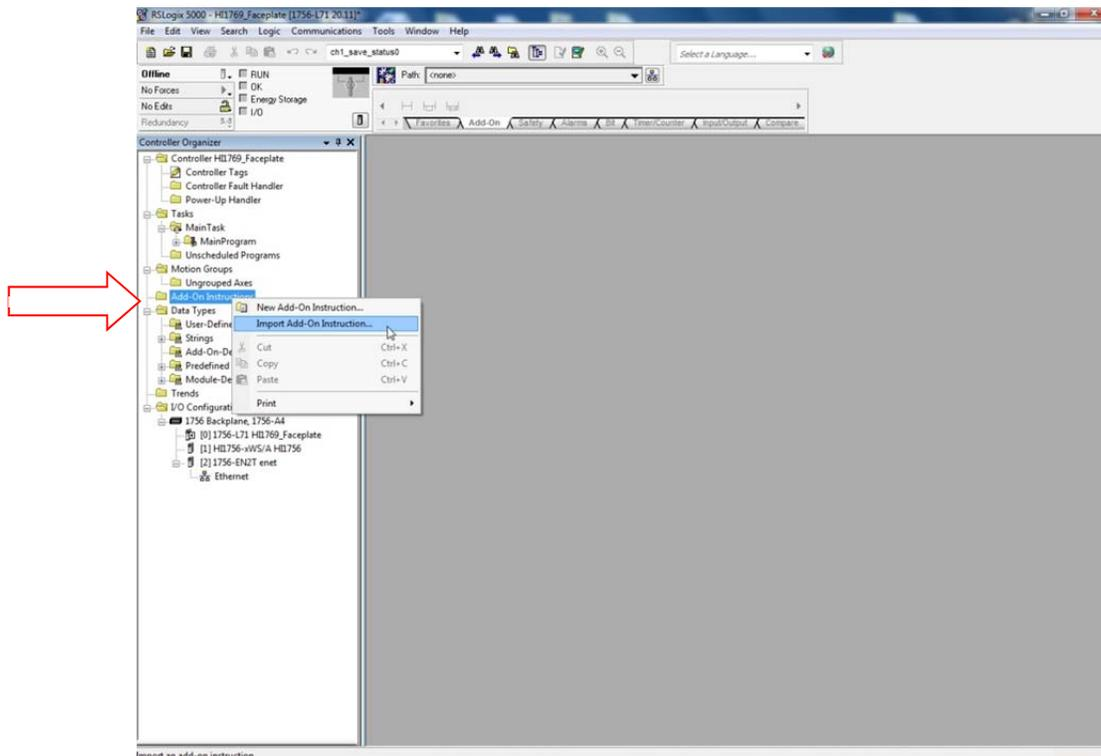

Figure 1
- Import the HI1756WS\_AOI. See Figure 1